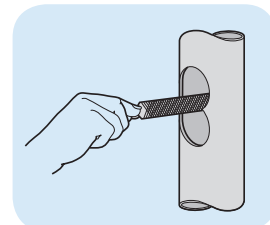

Fig. 18
- Remove sides of aperture using a medium file (Fig. 18).